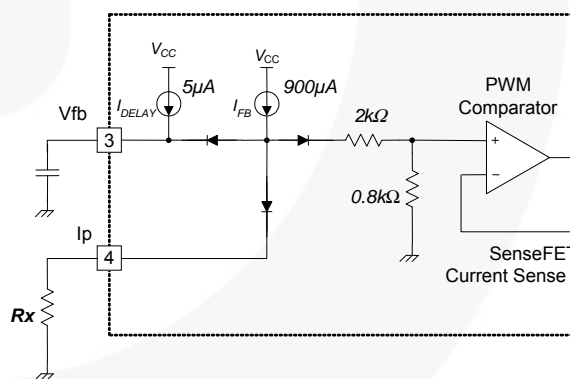

Figure 18. Peak Current Limit Adjustment
**7. Adjusting Peak Current Limit:** As shown in Figure 18, a combined 2.8kΩ internal resistance is connected to the non-inverting lead on the PWM comparator. An external resistance of  $R_x$  on the current limit pin forms a parallel resistance with the 2.8kΩ when the internal diodes are biased by the main current source of 900μA.